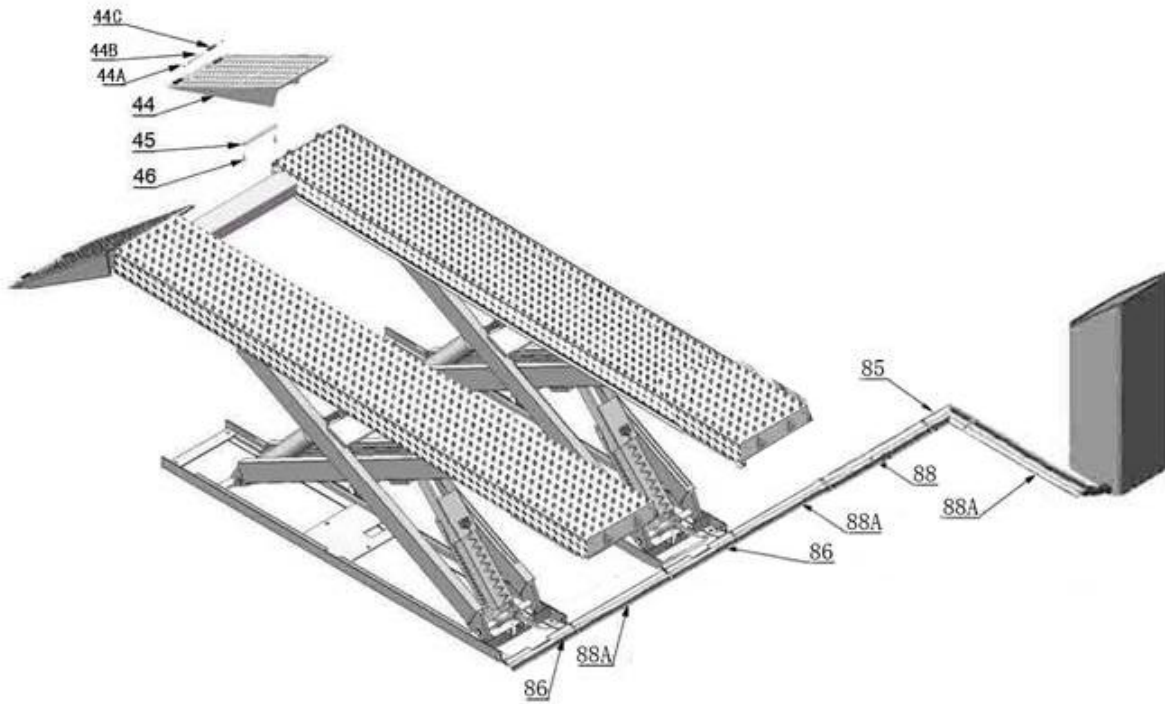

Fig. 5
1.2 Illustration of scissors lift **PX12** on surface installation (**See Fig.5**).